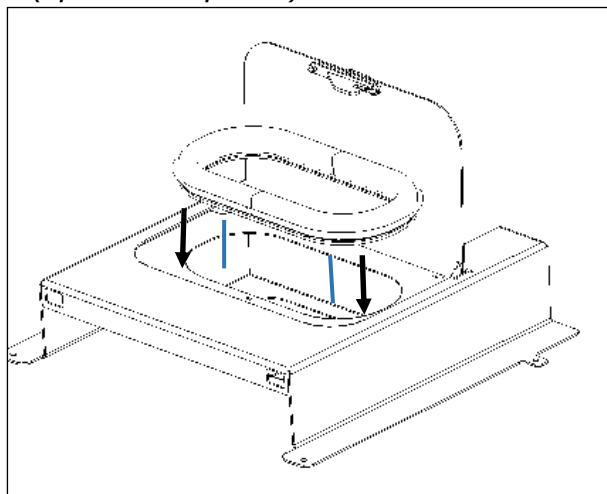

Figure 50 - Placement of the rubber seal on the top cover
d) Insert the rubber seal, removed from indent c on the top cover of kit 1, as shown in Figure 50.